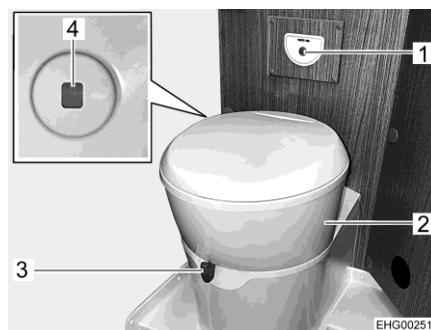

Fig. 98 Toilet
The toilet bowl can be rotated into the required position. In order to do this, grab the toilet's upper part (Fig. 98,2) with both hands and rotate it.
The operating unit with the flush button (Fig. 98,1) is installed near to the toilet bowl.
The colour of the level indicator (Fig. 98,4) changes from green to red whenever the sewage tank has to be emptied.
- Before flushing open the sliding trap of the toilet. To do this, push the slide lever (Fig. 98,3) in an anticlockwise direction.
- For flushing, press the blue flush button (Fig. 98,1).